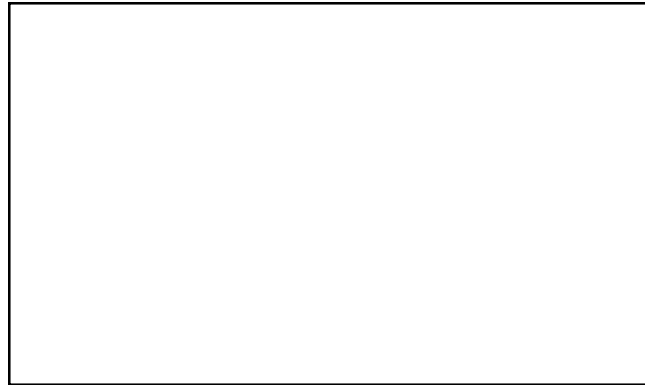

Figure 6-2. Winch line method
(2) *Winch line method.* Figure 6-2 shows the winch line method.